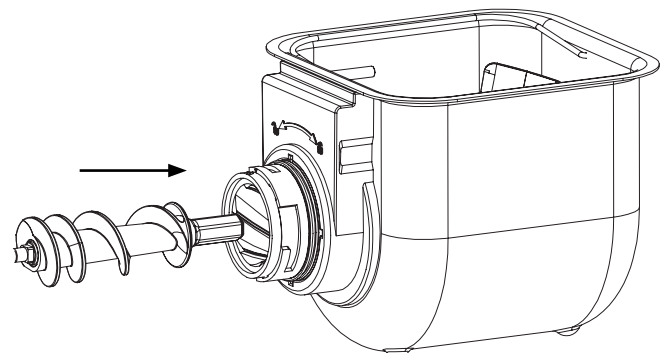

Fig. 3
1. Pot Front Cover Plate see fig 3. Place the Pot Front Cover Plate over the discharge opening.
4. Insert the Auger Screw as shown in Fig 3. and insert the Auger screw into the Mixing Paddles.